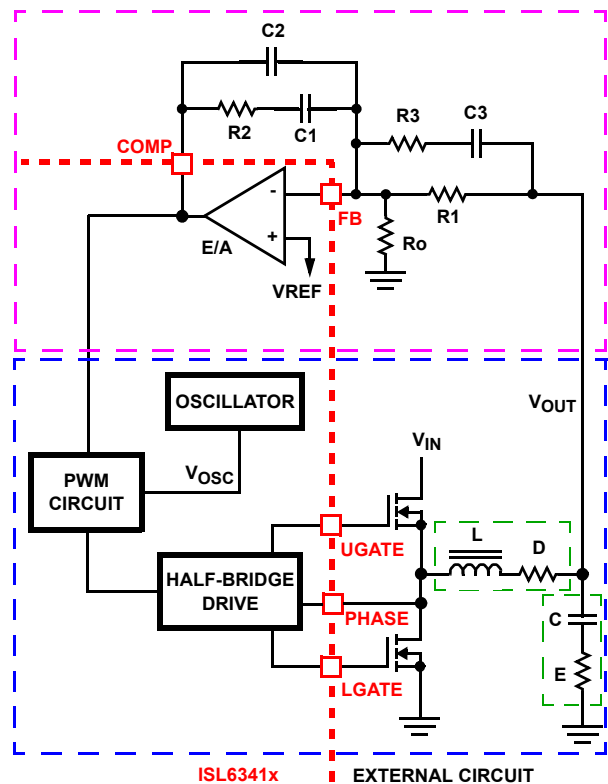

FIGURE 13. VOLTAGE-MODE BUCK CONVERTER COMPENSATION DESIGN
address a broad range of applications, a type-3 feedback network is recommended, as shown in the top part of Figure 13.
Figure 13 also highlights the voltage-mode control loop for a synchronous-rectified buck converter, applicable to the ISL6341x circuit. The output voltage (V_{OUT}) is regulated to the reference voltage, V_{REF} . The error amplifier output ($COMP$ pin voltage) is compared with the oscillator (OSC) modified sawtooth wave to provide a pulse-width modulated wave with an amplitude of V_{IN} at the $PHASE$ node. The PWM wave is smoothed by the output filter (L and C). The output filter capacitor bank's equivalent series resistance is represented by the series resistor E .
(F_0 ; typically 0.1 to 0.3 of f_{SW}) and adequate phase margin (better than 45°). Phase margin is the difference between the closed loop phase at F_{0dB} and 180° . The equations that follow relate the compensation network's poles, zeros and gain to the components (R_1, R_2, R_3, C_1, C_2 , and C_3) in Figure 13. Use the following guidelines for locating the poles and zeros of the compensation network:
4. Select a value for R_1 (1k Ω to 5k Ω , typically). Calculate the value for R_2 for desired converter bandwidth (F_0). If setting the output voltage via an offset resistor connected to the FB pin (R_0 in Figure 13), the design procedure can be followed as presented in Equation 4.